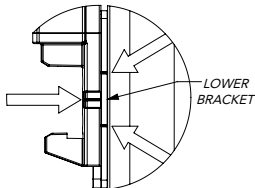
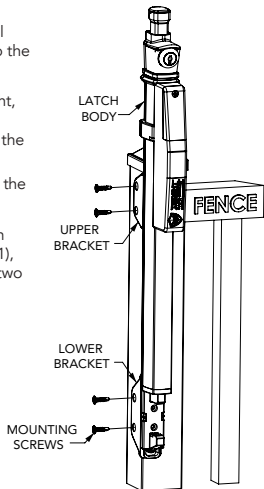

Figure 1
Figure 2
1. Determine the mounting height for the latch based on local code requirements. Slide the upper and lower brackets into the latch body (Figure 2).
3. Locate the lower bracket by centering the mark on the latch body between the two marks on the lower bracket (Figure 1), and install two (included) flat head mounting screws in the two exposed holes of the lower bracket (Figure 2).